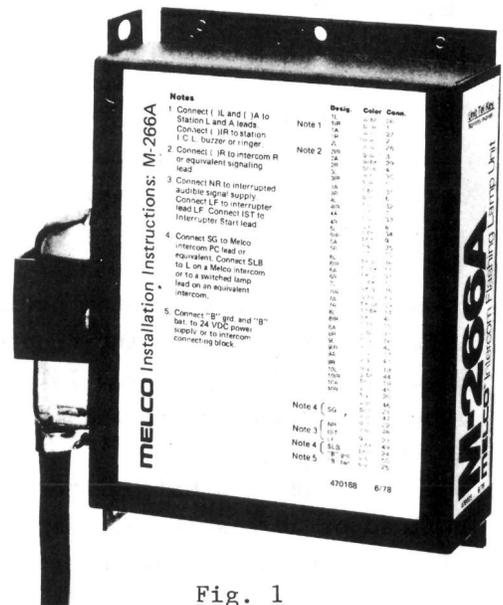

Fig. 1
1.0. This section describes the physical and functional characteristics of the M-266A Flashing Lamp Key Telephone Unit (see Fig. 1). Installation and maintenance procedures are included also.